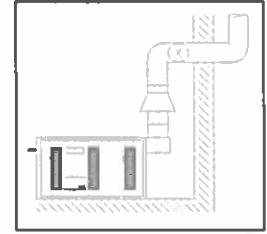

FIG. 12 (ÉVACUATION FORCÉE DIRECTE)
- 2) ÉVACUATION FORCÉE DIRECTE (FIG.12)